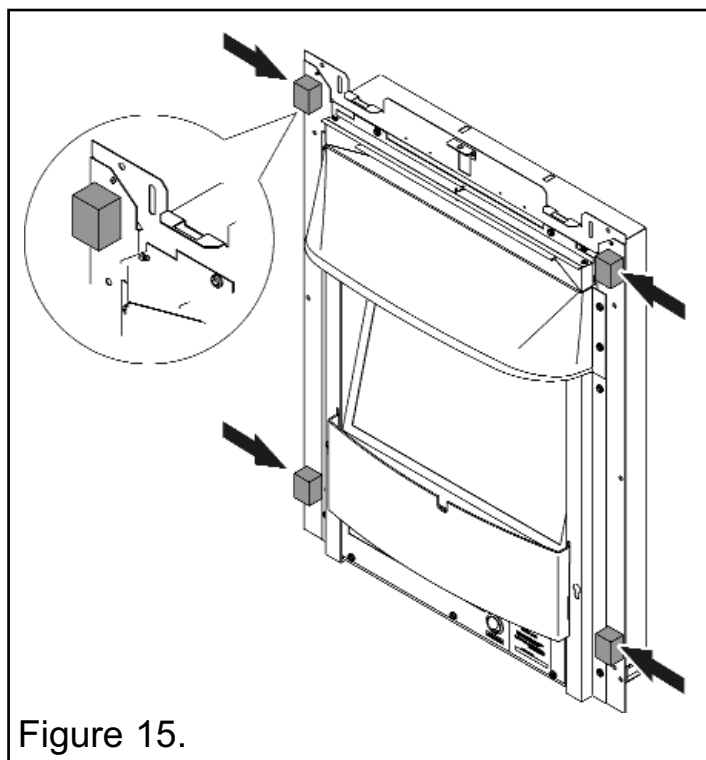

Figure 15.
1. Supplied in the fascia packaging are four magnets. Place the magnets as in figure 15.